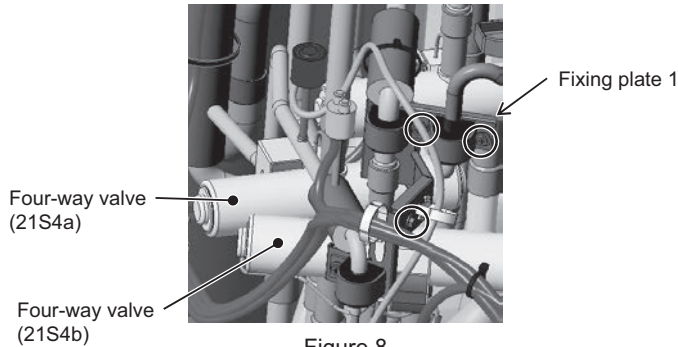

Figure 8
- (1) Remove the front heat exchanger. Refer to 8-12-11 Maintenance Procedures for the Heat Exchanger for details.
- (2) Remove the top, front, and right compressor covers. Refer to 8-12-6 Compressor Replacement Procedure for details.
- (3) Remove the fixing plate 1 above four-way valve (21S4b), saddle, and rubber spacer by unscrewing the three screws shown in Figure 8.